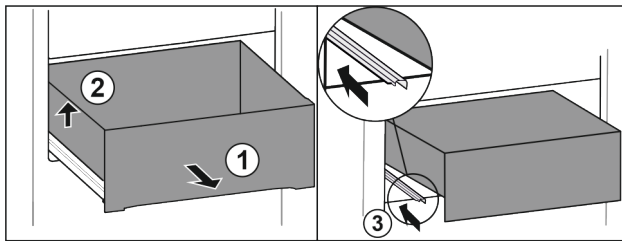

Fig. 68
- Pull out drawer as far as it will go. Fig. 68 (1)
- Lift drawer on the left. Fig. 68 (2)
- Insert left rail. Fig. 68 (3)